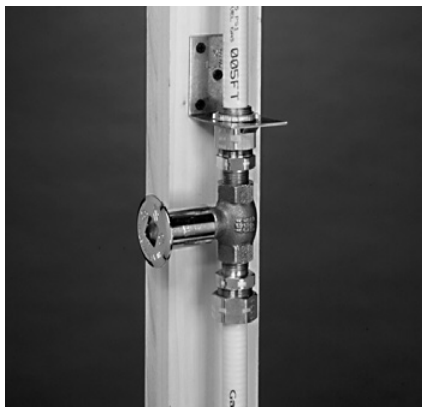

Fig. 4-37
- b) Fireplace key valves (Fig. 4-37) – Gastite®/FlashShield® CSST connections to fireplace key valves can be located in a concealed location when accessibility is not readily provided.